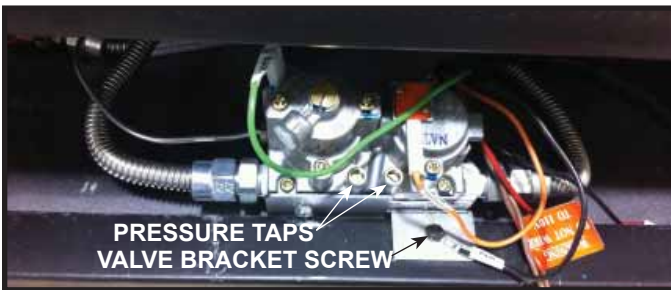

Figure 11.5 Valve Pressure Taps and Remote Receiver Location
1. Remove eleven screws around perimeter of valve plate as well as valve bracket screw. See Figure 11.2 and Figure 11.5.
The pressure taps are accessible through the front of the appliance. The decorative mesh front and fireplace gas assembly must be removed to gain access to the pressure taps. See Figure 11.5.